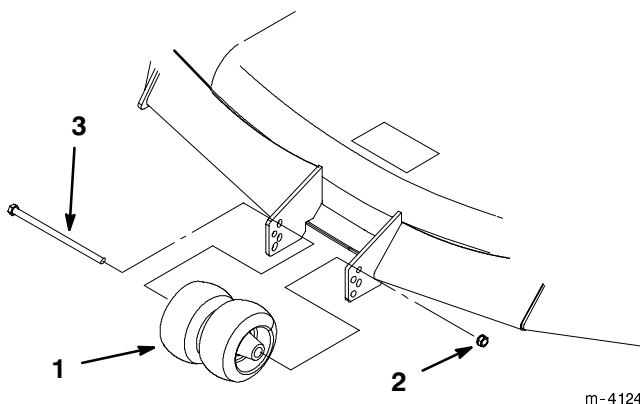

Figure 29
2. After adjusting height-of-cut, remove bolt and nut (Fig. 29).
3. Select hole so gage wheel is positioned to the nearest corresponding height-of-cut desired (Fig. 29).
4. Reinstall the bolt, center rollers and nut (Fig. 29).